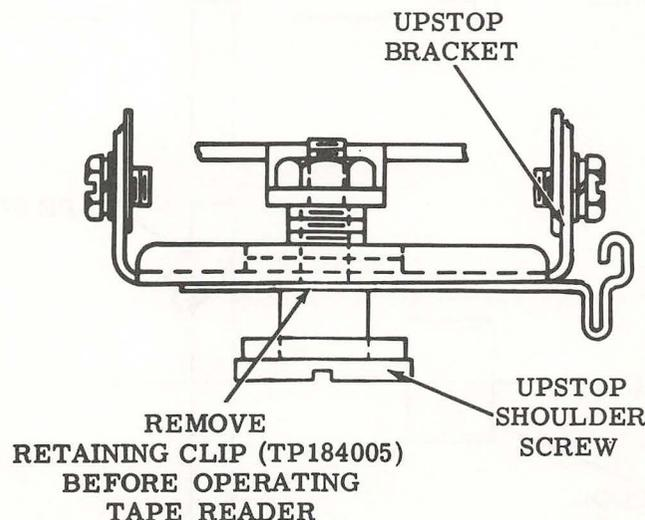

Figure 11 - Tape Reader Upstop Bracket Retaining Clip
Note: Before replacing an ASR cover, remove the retaining clip (early design units only) from the tape reader upstop screw (Figure 11).
5.01 A retaining ring or clip (Figure 11) is assembled (on early design units) to the upstop screw to prevent the sensing pins from being dislodged during shipment. This retaining clip must be removed before placing the tape reader in operation.